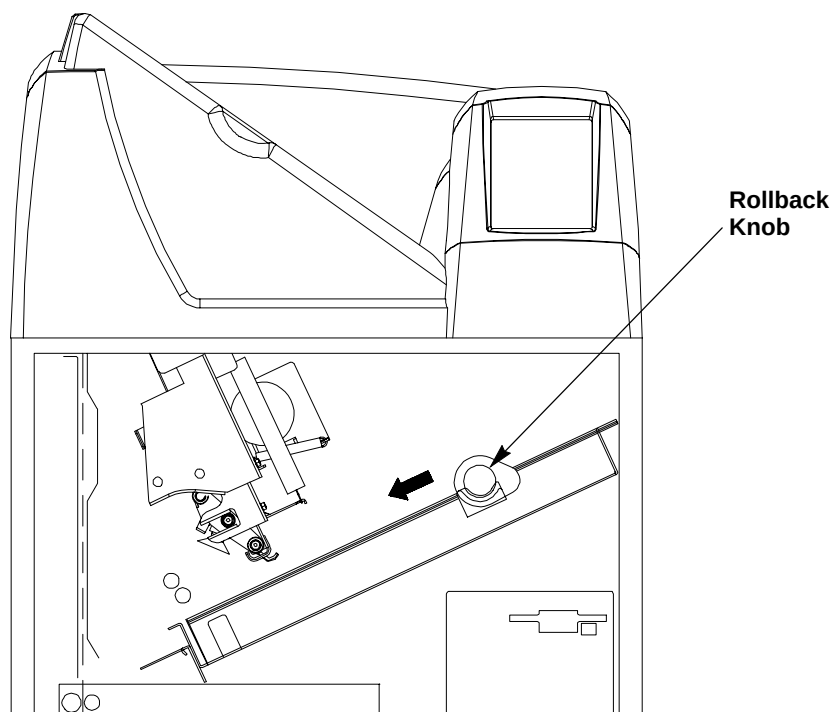

Figure 5-8. Manually Closing the Film Cartridge
3. Turn the rollback knob (see Figure 5-8) counterclockwise to close the cartridge.